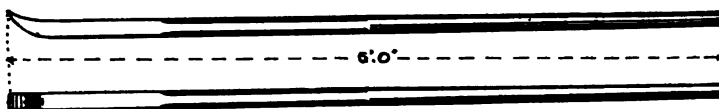

FIG. 7.—PINCH BAR. Weight 26 lbs
**Pinch Bar** (Fig. 7) is made of 2 ft. 6 in. of 1 3-8 in. square, 1 ft. 3 in. of 1 3-8 in. round, and 1 ft. 3 in. of 1 1-8 in. round, tapered and with steel end as in "lining bar." When finished to be 5 ft. long and to weigh about 26 lbs. Can make about